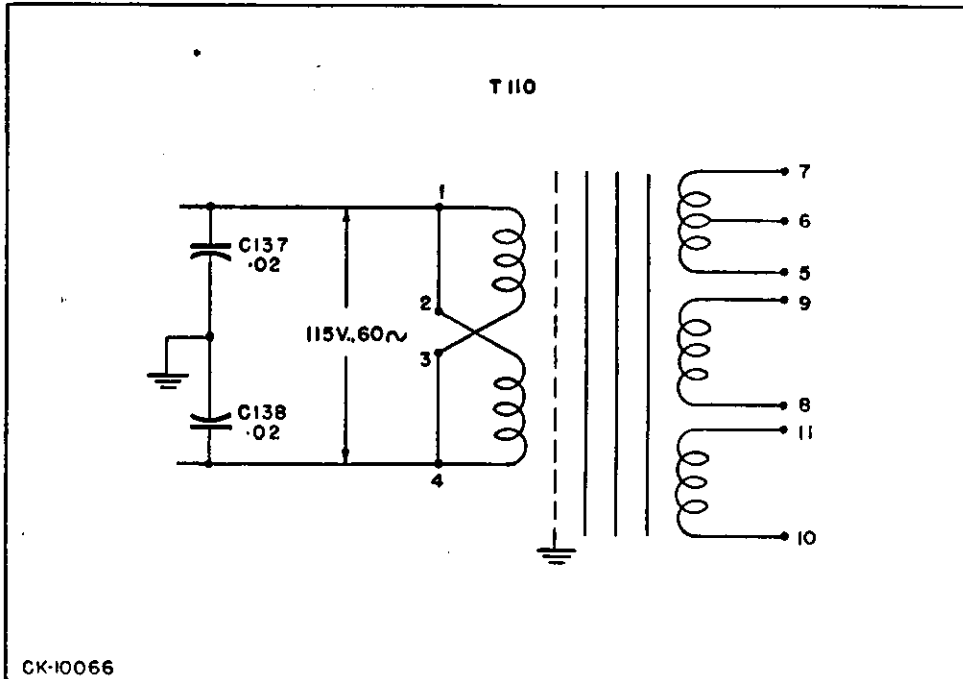
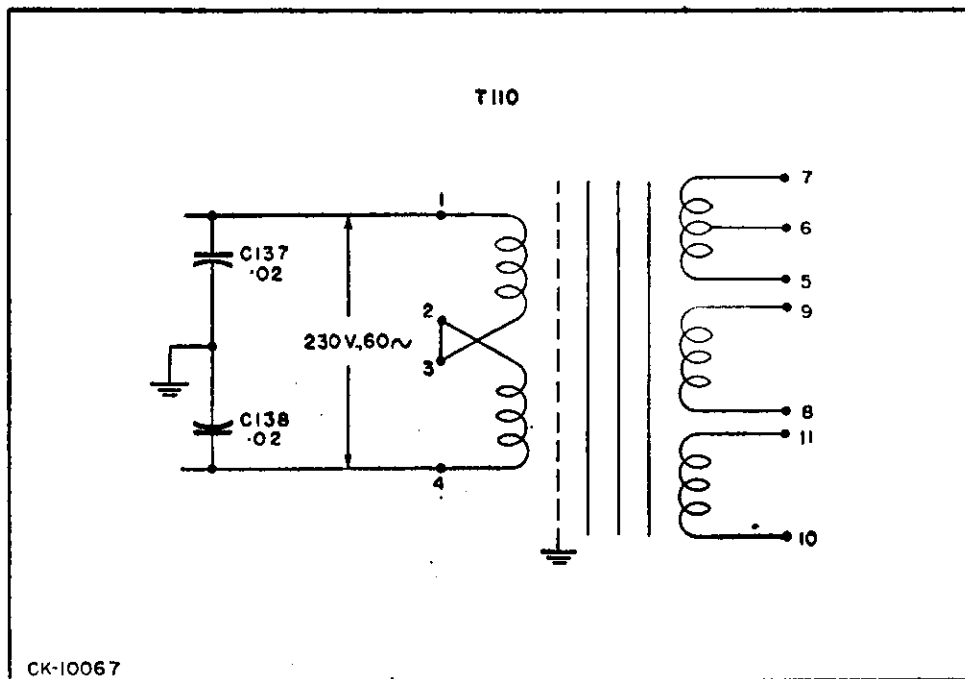

Figure 3-1. POWER TRANSFORMER CONNECTIONS FOR 115V OPERATION
Figure 3-2. POWER TRANSFORMER CONNECTIONS FOR 230V OPERATION
c. With the power switch in the OFF position, connect the plug on the power cord to J108 and rotate it clockwise to ensure that it is locked in position. Plug the other end of the power cord into a 50/60 cycle power outlet. A tag indicating the AC voltage rating is attached to each unit supplied. A wiring schematic for 115 and 230 V operation is shown in Figure 3-1 and Figure 3-2 respectively.